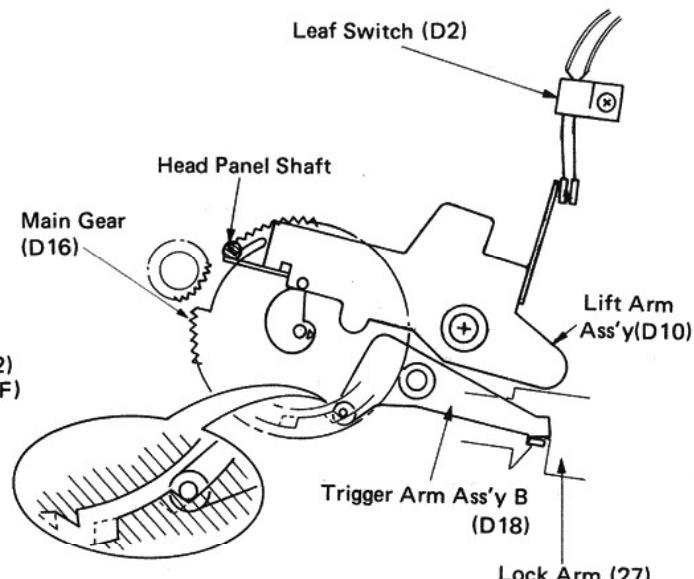
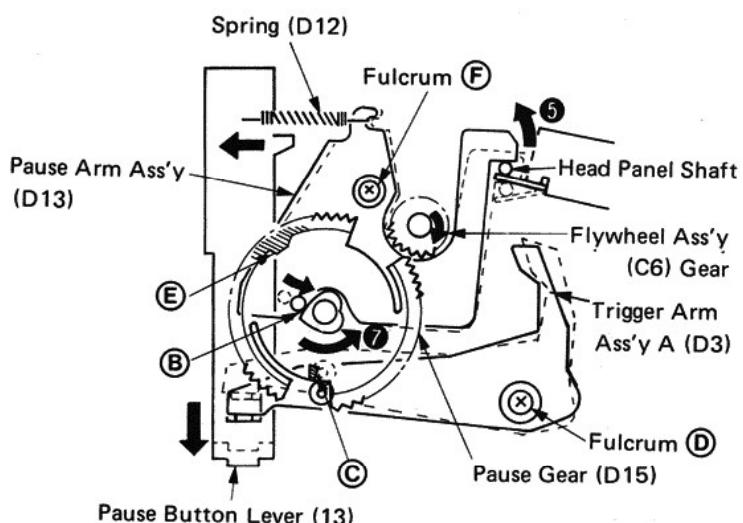

Fig. 4
Fig. 11
- 7 In Fig. 4, when the head panel has reached its highest point, the main gear (D16) reaches its neutral position and stops rotating. Trigger arm ass'y B (D18) holds the main gear in position and is locked by the Lock arm (27) to maintain the PLAY position. (Fig. 4)
- Pressing the PAUSE button again releases the pause button lever (13) and allows the trigger arm assembly A (D3) to move backward. The lock C of the pause gear (D15) is thereby disengaged.
- Since the pause arm assembly (D13) pushes the pause gear (D15) at Point B with the aid of the spring (D12), the pause gear begins to rotate in direction ⑦.
- Since the pause arm assembly (D13) returns in direction ⑤, the head panel shaft (namely the head panel assembly) is restored to normal to assume the PLAY (or REC) condition as shown in Fig. 4. (Fig. 11)